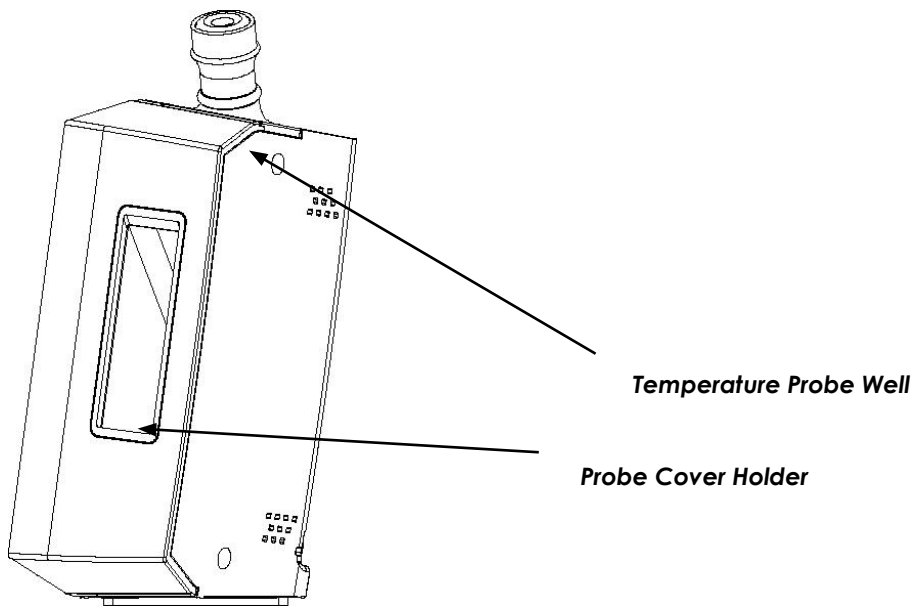
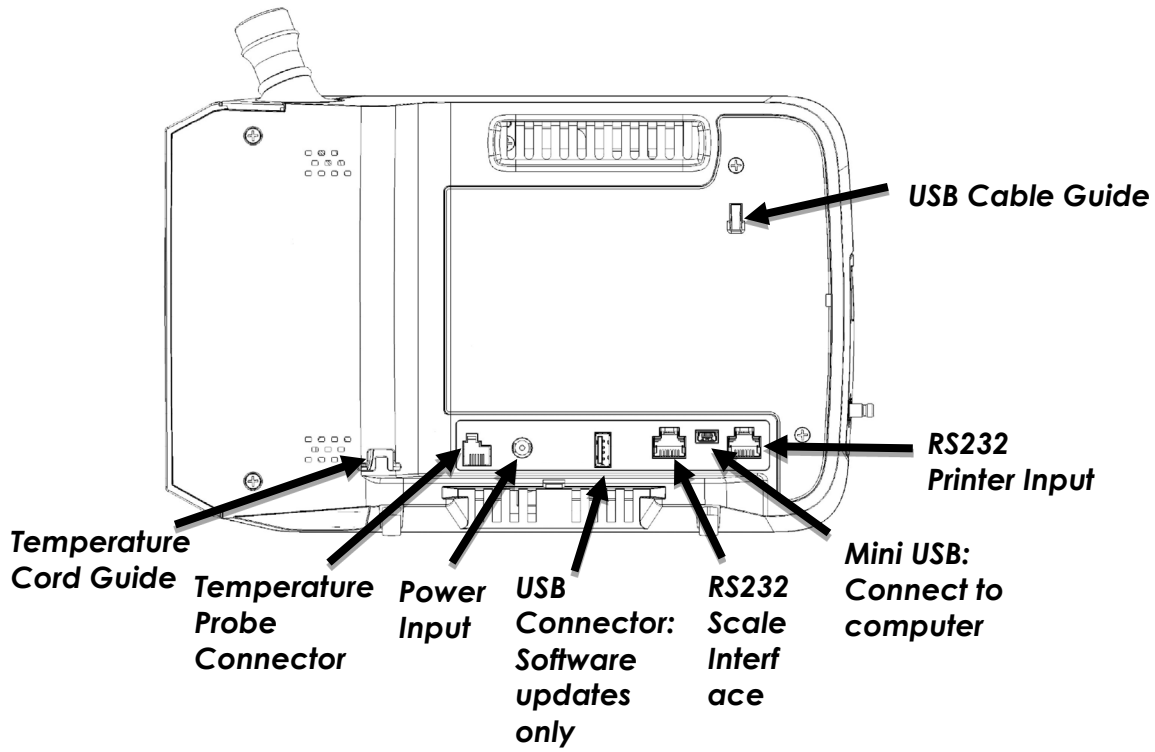

Figure 1
Figure 3
1. Install the temperature probe to its connector located on the back of the device (see **Figure 3**). Thread the temperature probe cord through the temperature cord guide (see **Figure 3**). Insert the temperature probe into its well (see **Figure 1**). Place the box of probe covers (included in the kit) in the probe cover holder of the device (see **Figure 1**).
1. Attach the power cord to the device (see **Figure 3**). The power input is located on the back of the device. Plug the power cord into the AC wall outlet.
1. If using the Midmark Digital Vital Signs Device with a computer, connect the mini USB connector of the USB cable to the mini USB port on the back of the device and route the cable through the USB cable guide (see **Figure 3**) on the battery door of the Midmark Digital Vital Signs Device. The other end of the USB cable will be connected to an available USB port on the computer.
1. If using a Fairbanks® scale with the Midmark Digital Vital Signs Device, connect the scale cable to the back of the device (see **Figure 3-Scale Interface**). The Midmark Digital Vital Signs Device will automatically detect the scale has been connected and is ready for use.
2. If using a Midmark Exam Chair and Integrated Scale with the Midmark Digital Vital Signs Device, connect the scale cable to the back of the device (see **Figure 3-Scale Interface**). The Table Scale icon will appear to the right of the Clear button on the Main Testing screen when the Midmark Digital Vital Signs Device is configured to the Integrated Scale. See Section XIII, Appendix A - Configuring an Midmark Digital Vital Signs Device with the Midmark Integrated Scale for complete instructions on configuring the Midmark Digital Vital Signs Device with the Integrated Scale.
3. If using the Midmark Digital Vital Signs Device thermal printer, connect the printer to the back of the device (see **Figure 3-Printer Input**). The device will automatically detect the printer has been connected and is ready for use.
- Attach the power cord to the device (see **Figure 3**). The power input is located on the back of the device. Plug the power cord into the AC wall outlet.
- It takes approximately four (4) hours to fully charge the battery.